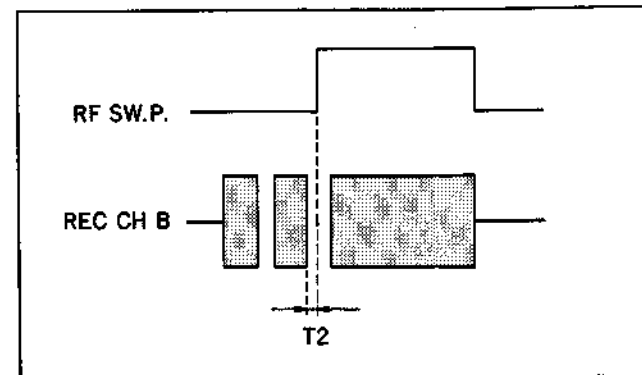

Fig. 6-10-5 Switching position check (REC B) ②
4. Use the REC head PB harness in the same manner as section 6-9, item 1.
6. Check the error T1 of the wave shape indicated in the figure to satisfy specifications 2 (Fig. 6-10-5).
1. If specifications 2 is not satisfied in the check of section 6-10-3, perform the following adjustment. (See Fig. 6-10-5.)